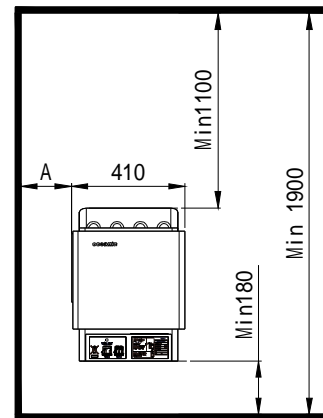

fig 7C
- △ the minimum height of you sauna room must be 1900mm, please refer fig 7C;